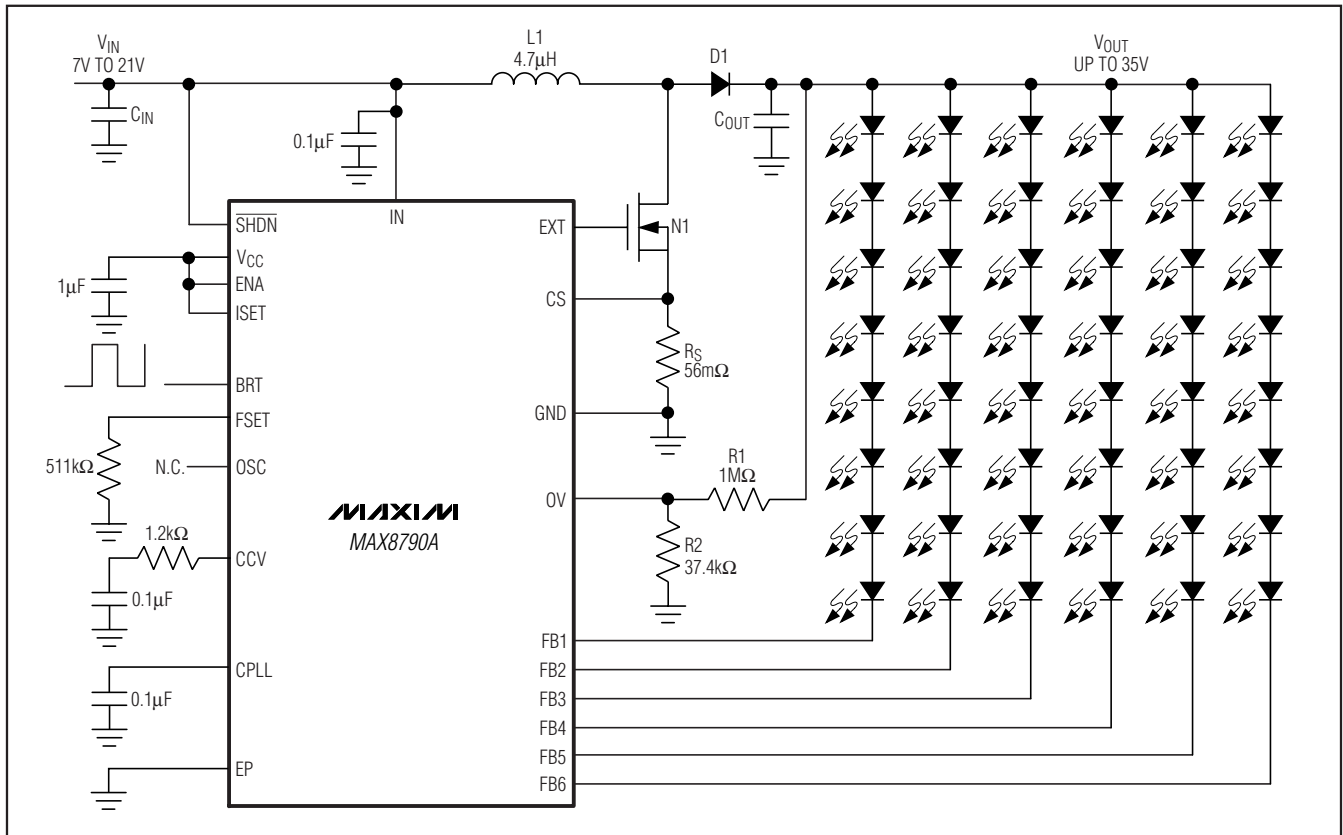

Figure 1. Typical Operating Circuit
To protect the step-up converter when the load is open, or the output voltage becomes excessive for any reason, the MAX8790A features a dedicated overvoltage feedback input (OV). The OV pin is connected to the center tap of a resistive voltage-divider from the high-voltage output (see Figure 1). When the MAX8790A is powered up, if none of the LED strings on FB1–FB6 are connected to the step-up converter output, the step-up converter regulates the output voltage to $V_{\text{OUT}} = 1.23V(1 + R_1 / R_2)$. When V_{OV} exceeds 1.23V, a comparator turns off N1. The step-up converter switch is reenabled after the output voltage drops below the protection threshold.